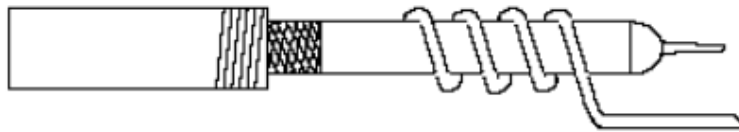

Figure 3. Recommended probe configuration.
- Use a balanced impedance probe tip across COUT to measure VOUT Ripple to avoid noise coupling into the probe ground lead. The recommended probe configuration is shown in Figure 3.